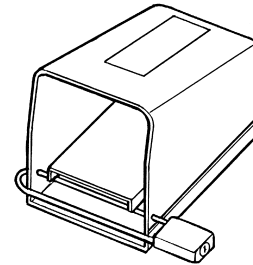

Figure 1 – Locked Foot Switch
8. **Lock foot switch when not in use (Figure 1).** Avoids accidental starting.